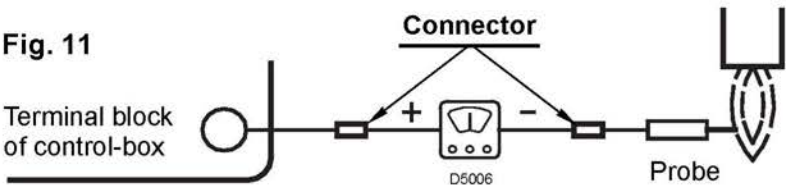

Fig. 11
The burner normally supplies a higher current value, so that no check is needed. Anyway, if you want to measure the ionization current, you have to open the connector (C) (see electrical scheme page 6) fitted on the wire and insert a microammeter. (See fig. 11).